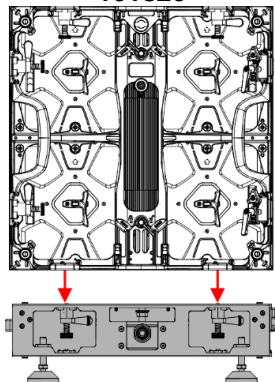

Fig. 40
- 02) Put a LED screen on top of the rigging bar, so that the fast-lock openings on the bottom of the LED screen fit in the **locking mechanism (03)** of the rigging bar, as shown in Fig. 40 and 41.